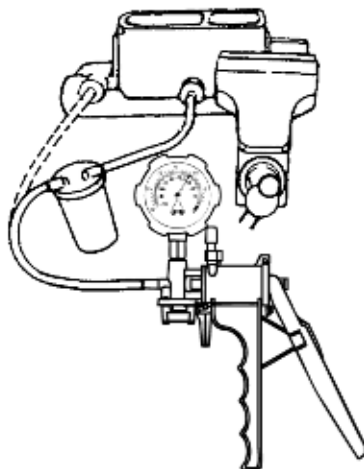

FIGURE 16: BENCH BLEEDING
- 3) Remove a plug from the master cylinder and attach the proper adapter to this master cylinder outlet port. Connect the pump tube to the reservoir jar and the jar tube to the adapter (FIGURE 16).